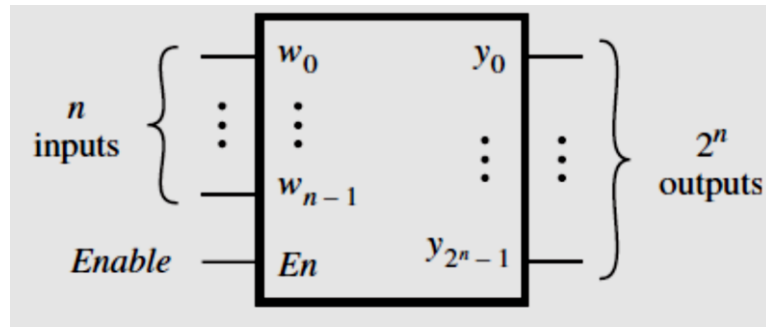

Figure 4.1 Decoder
- A binary decoder, depicted in Fig. 4.1, is a logic circuit with n inputs and 2^n outputs.